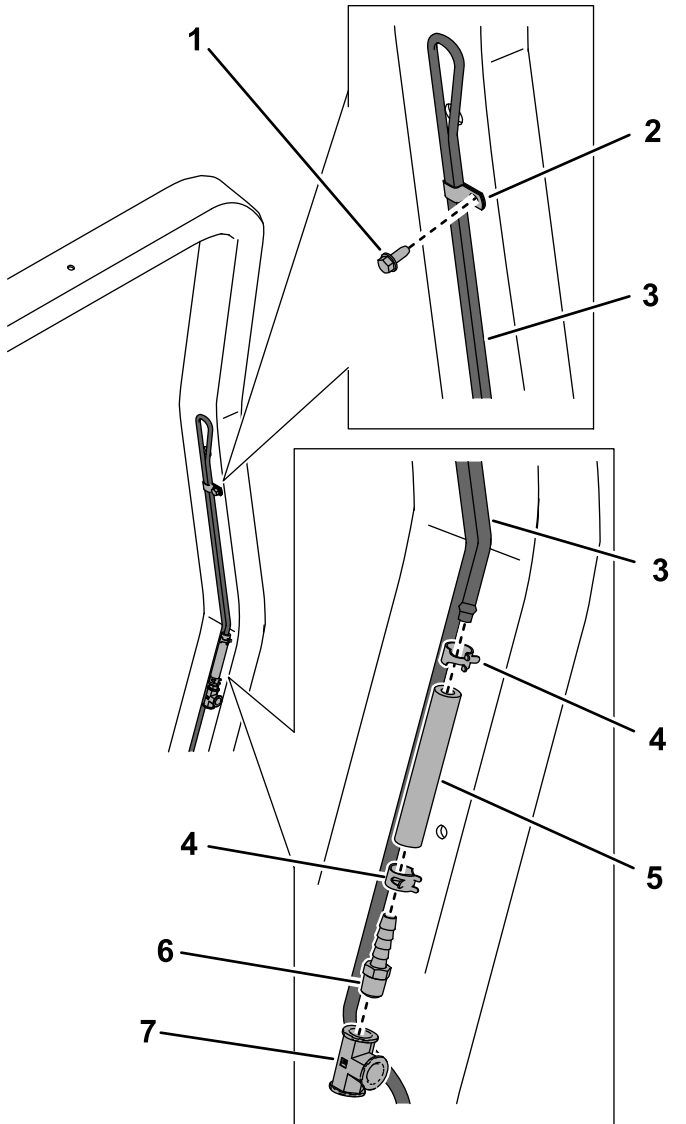

Figure 7
1. Install the fuel vent tube to the left side of the roll bar using the small R-clamp and bolt (1/4 x 5/8 inch) as shown in Figure 7. Torque the bolt to 1017 to 1243 N·cm (90 to 110 in-lb).
2. Install a hose (3 inch) to the fuel vent tube using a hose clamp (1/2 inch) as shown in Figure 7.
3. Connect the hose to the tee fitting using a straight fitting and hose clamp (1/2 inch) as shown in Figure 7.